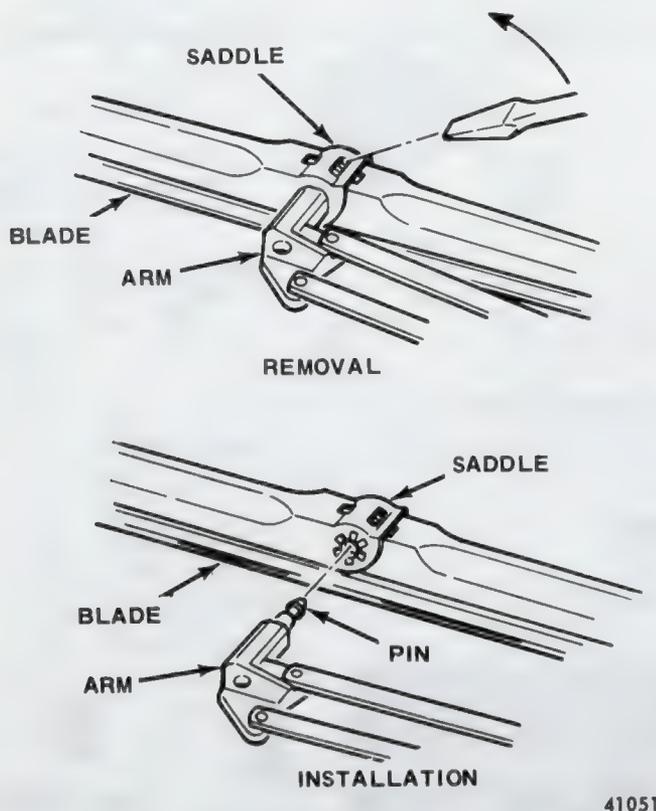

Fig. 3T-33 Wiper Blade Removal and Installation
(1) Remove pin-type blade by inserting an appropriate tool into spring release opening of blade saddle, depressing spring clip and pulling blade from arm (fig. 3T-33).